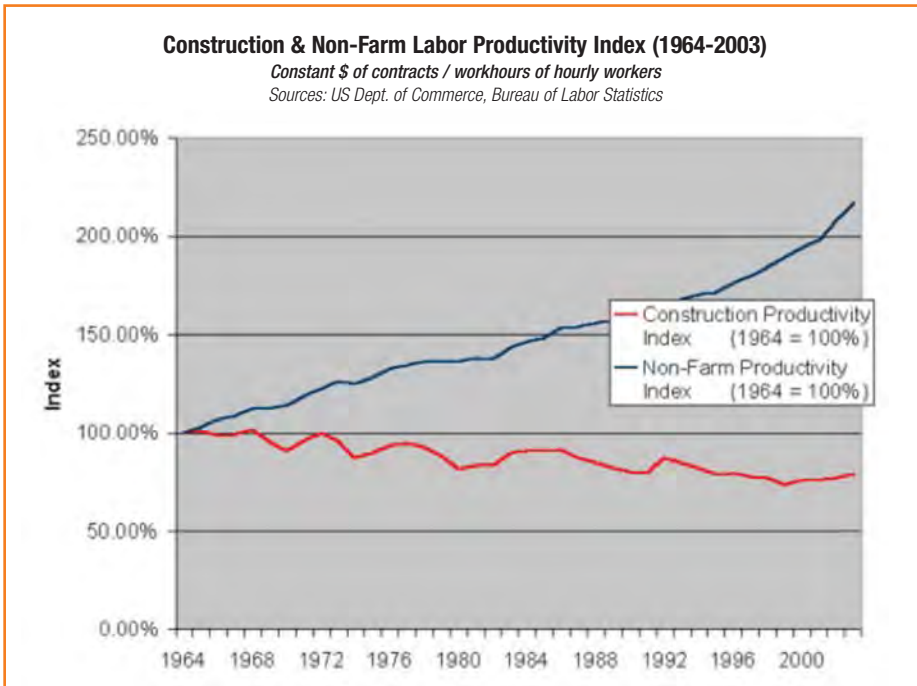

Figure 1: Productivity of U.S. Construction Industry vs. All Industries
**T**he United States construction industry has represented 14 – 25 percent of the entire world's construction for the last century, amounting to one trillion dollars in annual contribution to the U.S. Gross Domestic Product (five to six percent). Overall, the U.S. has enjoyed one of the highest productivity increases of her workforce when compared with all the other nations. With less than 4.5 percent of the world population, the U.S. controls more than 40 percent of the world's wealth. The national increase in productivity of all industries is, however, not mirrored in the construction industry (see Figure 1). According to the National Institute of Standards and Technology (NIST), the construction industry is a major contributor to the U.S. economy; however, its contribution to the national productivity lags the national average. The productivity cannot be improved to be at par with the rest of the nation unless it is correctly measured, and the measurement acted upon for improvement.